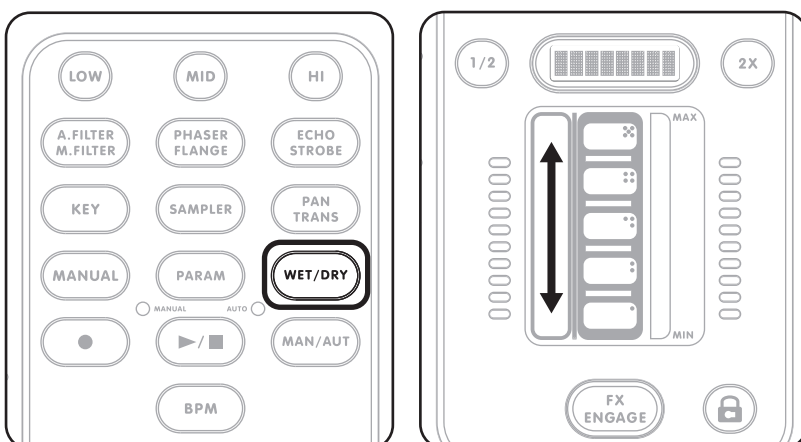

Figure 4.19
3. Now, press the WET/DRY button and move the value down to around 50% using the FXGLIDE™ Slider Strip (Figure 4.19) You will hear the sound return to a more normal state, and the effect will be present only in the selected frequency range.